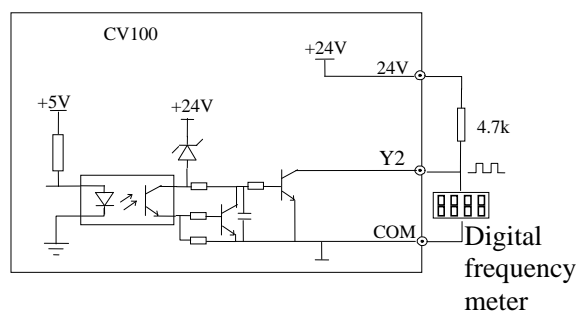

Fig 4-15 Wiring method 1 of output terminal Y2
3. Y2 is also can be used as pulse output. If Y2 uses the internal 24v power supply. The wiring is shown in Fig.4-15.